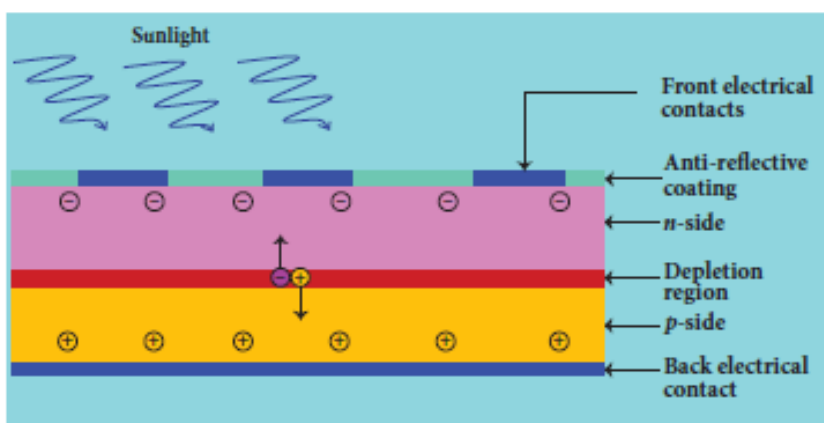

Figure 10.24 Cross-sectional view of a solar cell
- A solar cell, also known as photovoltaic cell, works on the principle of **photovoltaic effect**. Accordingly, the p - n junction of the solar cell generates emf when solar radiation falls on it. The construction details and cross-sectional view are shown in Figure 10.24.